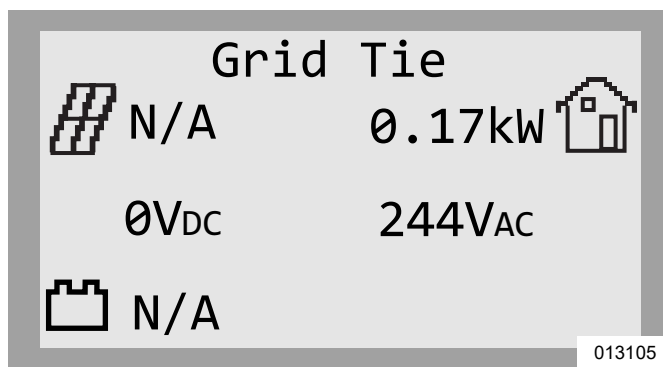

Figure 6-2. Inverter Power-Up
See Figure 6-2. On power-up, the home screen will appear on the control panel LCD with the system mode listed at the top of the home screen.
1. See Figure 6-2. While viewing the home screen press the center button.